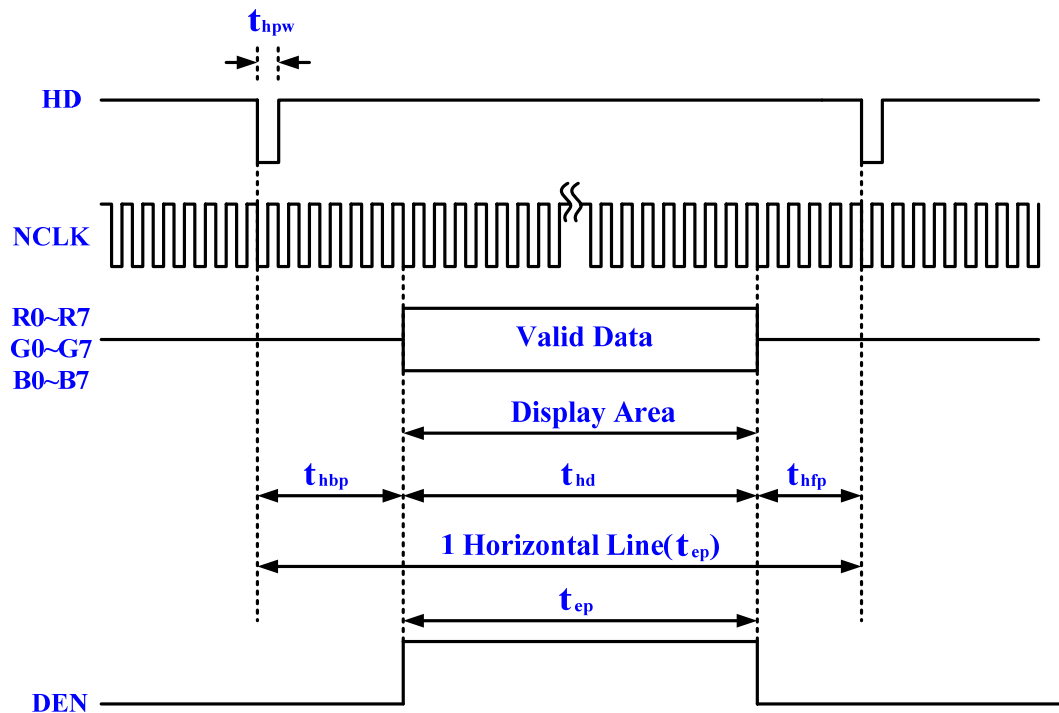

Figure 3.2 LCD horizontal timing specification
Figure 3.2 illustrates the basic timing requirements for each row (horizontal) that is displayed on the LCD panel. An active-low pulse of specific duration (time t_{hpw} in the figure) is applied to the horizontal synchronization (HD) input of the LCD panel, which signifies the end of one row of data and the start of the next. The data (RGB) inputs on the LCD panel are not valid for a time period called the hsync back porch (t_{hbp}) after the hsync pulse occurs, which is followed by the display area (t_{hd}). During the data display area the RGB data drives each pixel in turn across the row being displayed. Also, during the period of the data display area, the data enable signal (DEN) must be driven to logic high. Finally, there is a time period called the hsync front porch (t_{hfp}) where the RGB signals are not valid again before the next hsync pulse can occur.